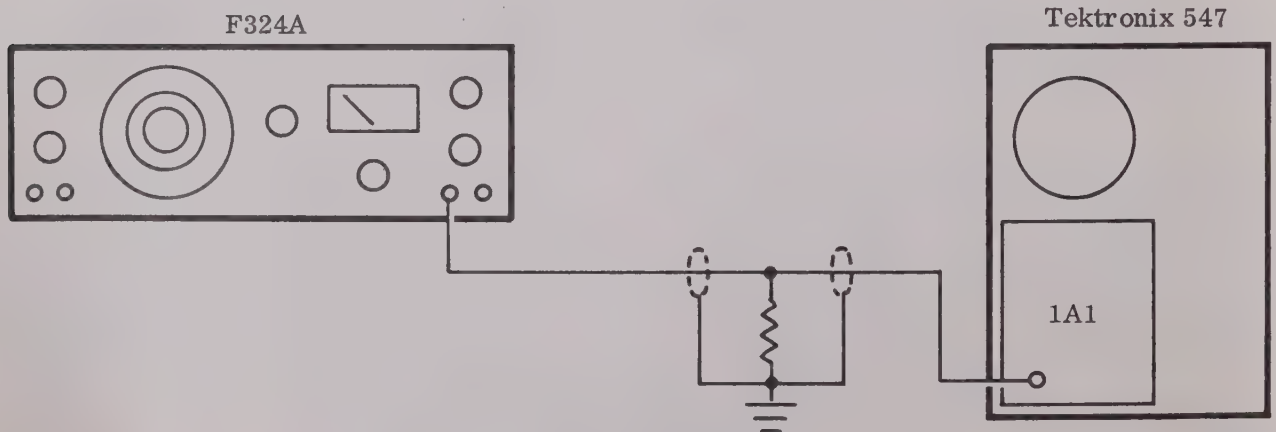

FIGURE 5-14
- a. Interconnect equipment as shown in Figure 5-14, observing signal and ground connections carefully. ($R_1 = 50\Omega$).